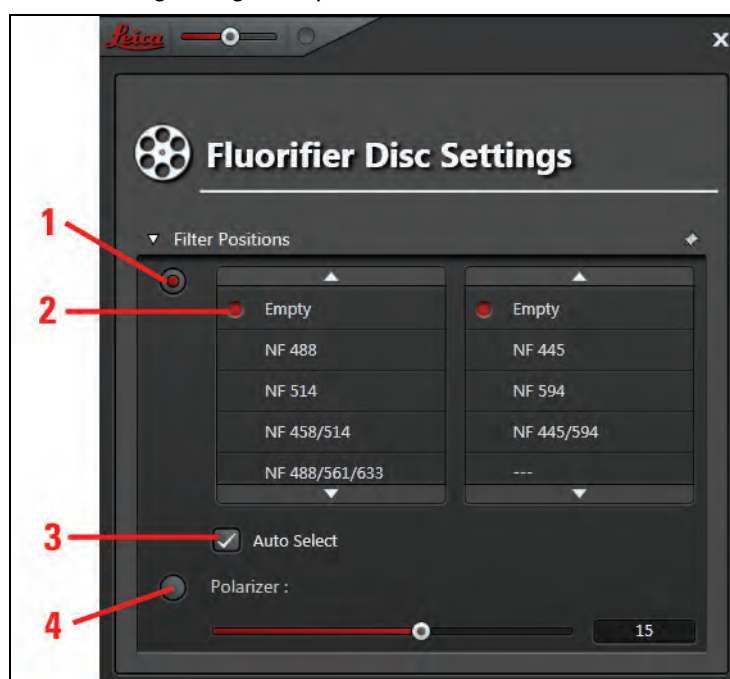

Figure 126: Fluorifier Disc Settings
2. Click the upper radio button (**Figure 126, item 1**).
- For automatic filter selection: Select the **Auto Select** (**Figure 126, item 3**) check box. Individual filters now cannot be manually selected.
For external FLIM detection or normal intensity image acquisition, it is possible to use the **Empty** position (**Figure 126, item 2**) as needed in the **Fluorifier Disc Settings**. Remove the check in the **Auto Select** check box and select **Empty** in both menus.
Alternatively, if the effect of polarization is to be investigated, the lower radio button can be clicked (**Figure 126, item 4**) and the polarization direction defined by moving the slider position.
If you would like to use other wavelengths for excitation, the filter wheel should be in the **Empty** position (**Figure 126, item 2**).